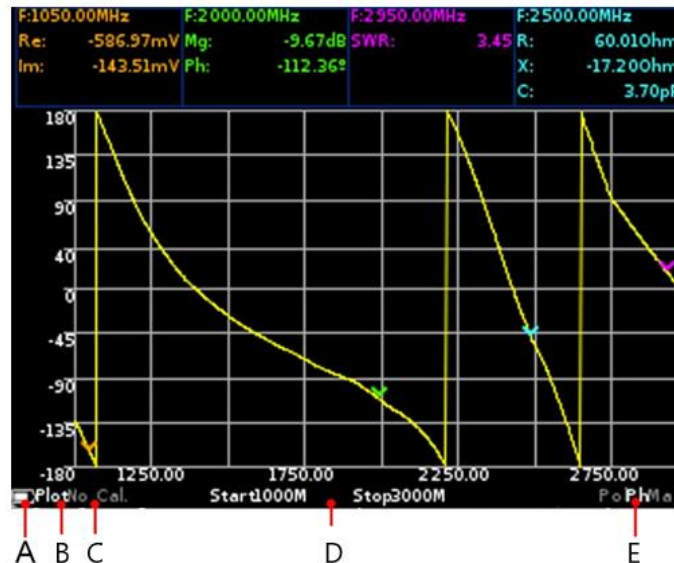

Figure 8.1 – Screen of the device
8.1. In Figure 8.1, in the lower left corner of the screen is placed the indicator (A) of the status of the internal battery, which, depending on the state of the battery, can be displayed as:
8.2. To the right, from the battery status indicator, the mode (B) is displayed, Figure 8.1, in which the navigation buttons (8) are located:
- **Plot** - a mode in which the buttons (8) switch charts and plots on the device screen;
- **Span** - using the buttons (8), the user can change the viewing range at a constant center frequency;
- **Freq** - use the buttons (8) to change the initial and final frequencies without changing the width of the frequency plan (shifting the frequency plan);
- **Mkr 1 ... Mkr 4** - an active marker that can be moved with the buttons (8). Switching between markers is done by pressing the button (11) “MKR”;
- **Amp** - mode in which the buttons (8) change the reference level when outputting such plots as magnitude, logarithmic magnitude and VSWR.
8.3. Designation of the type of calibration (C) figure 8.1:
8.4. In the center of the bottom line, the frequency plan is displayed (D) Figure 8.1:
8.5. In the lower right corner of the screen, the type of the plot is displayed on the device screen (E) (Figure 8.1):